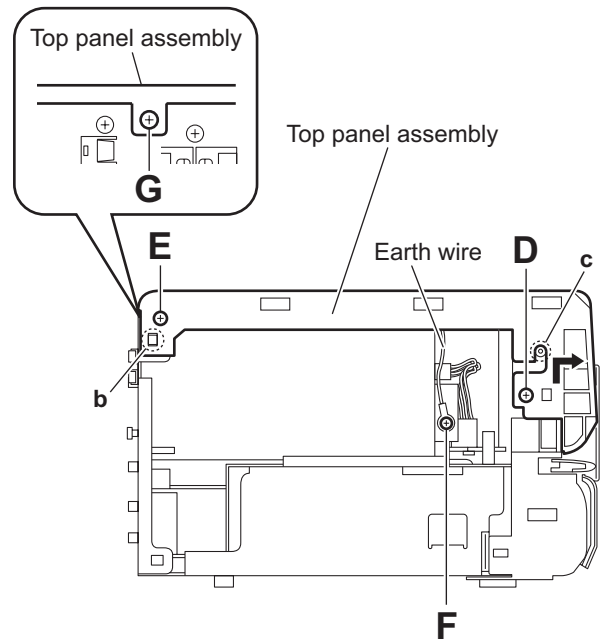

Fig.6
When attaching the screw **F**, attach the earth wire with it. (See Fig.6.)
- From the back side of the main body, remove the screw **G** attaching the top panel assembly. (See Fig.6.)